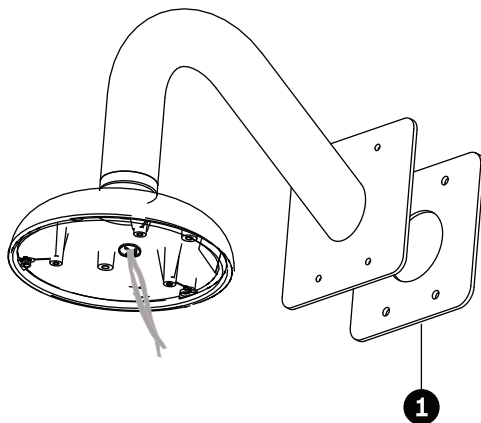

Figure 5.6 Secure arm to wall with flat gasket
- a. Thread the 21.82 mm I.D. by $\varnothing 3.00$ mm O-ring (item 1, above) onto the lower arm threads.
- b. Secure the retaining ring gasket (item 2, above) to the dome cap with the three (3) M3 – .5 x 6 Phillips flat head machine screws. Ensure that the side of the retaining ring with the counter-sunk screw holes is facing you.
7. Feed the wires through the hole in the surface, through the wall mount flat gasket (item 1, *Figure 5.6*) and then through the arm.